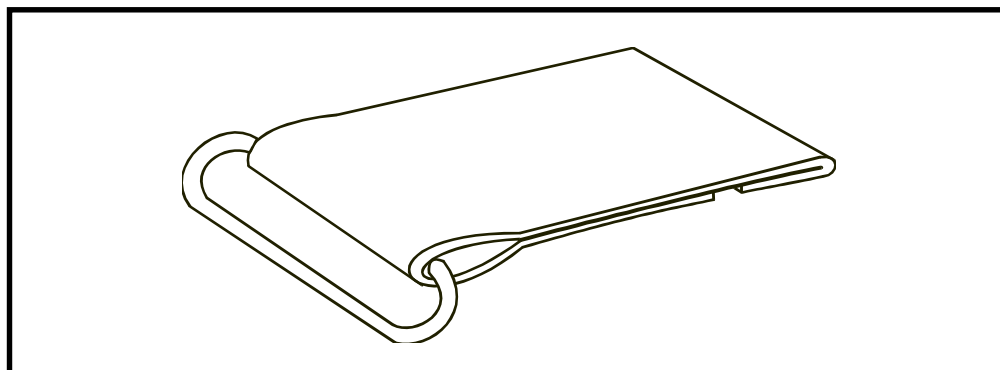

Figure 13-3. Type 2 fold
(2) Type 2 Fold. For type 2 fold (Figure 13-3), the webbing is cut so that it is twice as long as the planned chape. To make a type 2 webbing fold, insert one end of the webbing through the hardware, and then--